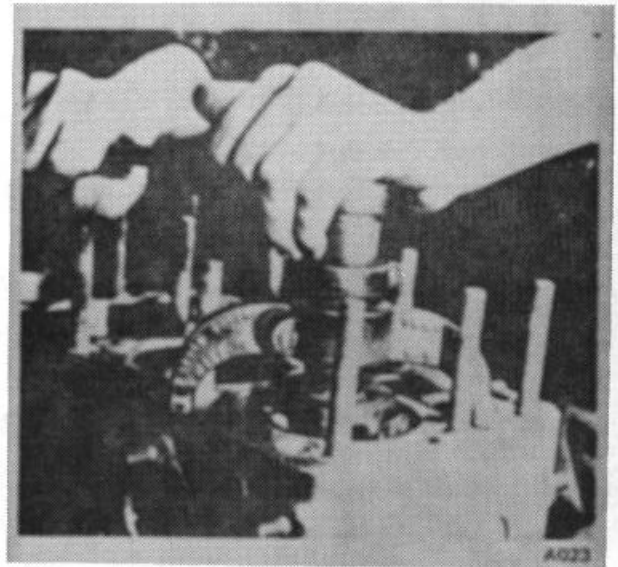

Figure 22.
1. Ridge ream the cylinders to remove the unworn area at the top so that the new rings when assembled will not bump and distort both themselves and the piston lands. (Fig. 22)